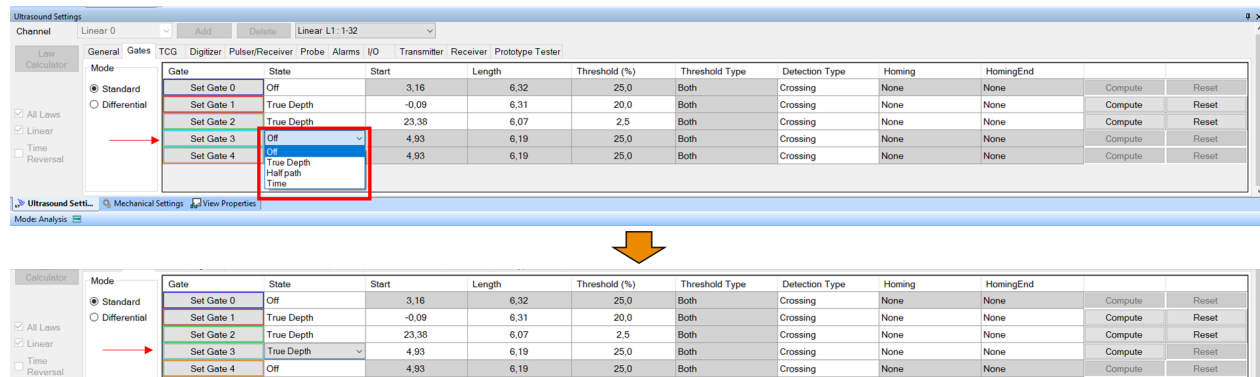

Figure 19: Activating **Gate 3** from Gates page in the analysis mode
- In Figure 19, the user activates **Gate 3** which was already off in the data file. The user switches the State from "Off" to "True Depth"